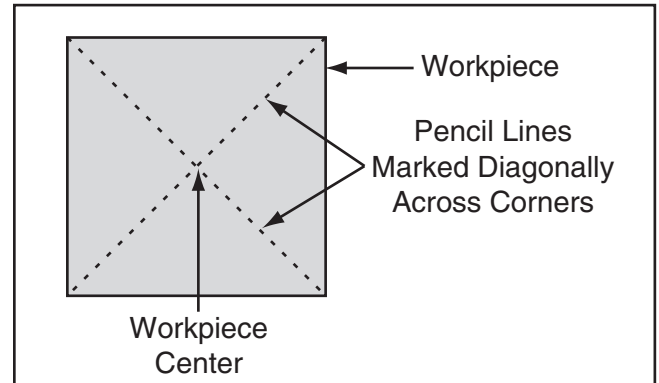

Figure 22. Workpiece marked diagonally from corner to corner to determine the center.
1. Find center point of both ends of your workpiece by drawing diagonal lines from corner to corner across end of workpiece, as shown in **Figure 22**.